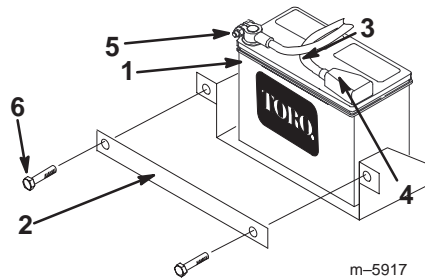

Figure 1
2. Remove the bolts, nuts, and clamp securing the battery (Fig. 1).
- Secure the battery in chassis with the clamp, bolts, and nuts removed previously (Fig. 1).
- Using the bolt and nut supplied with the battery, connect the positive (red) cable to the positive (+) battery post (Fig. 1). Slide the rubber cover over the battery post.
- Using the bolt and nut supplied with the battery, connect the negative (black) cable to the negative (-) battery post (Fig. 1).